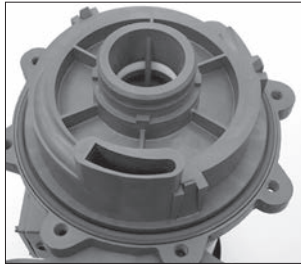

Figure 47
- Install the inner volute (item 6) by lining up the prongs of the barrier with the channels in the inner volute. Press down evenly until the prongs snap onto the surface of the inner volute. See figures 47 and 48.